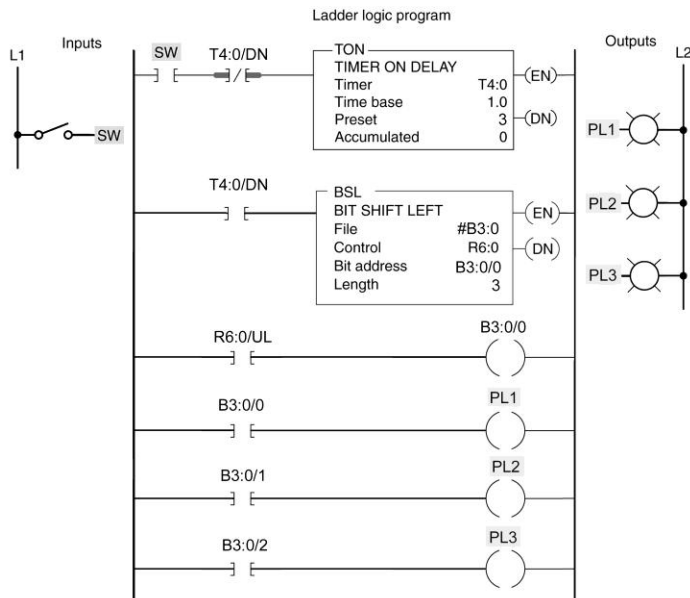

Figure 12-29 Wraparound bit shift left program for assignment 12.
12) The wraparound bit shift left (BSL) program of Figure 12-29 is described in the text. Prepare an I/O connection diagram and ladder logic program that will simulate its operation.